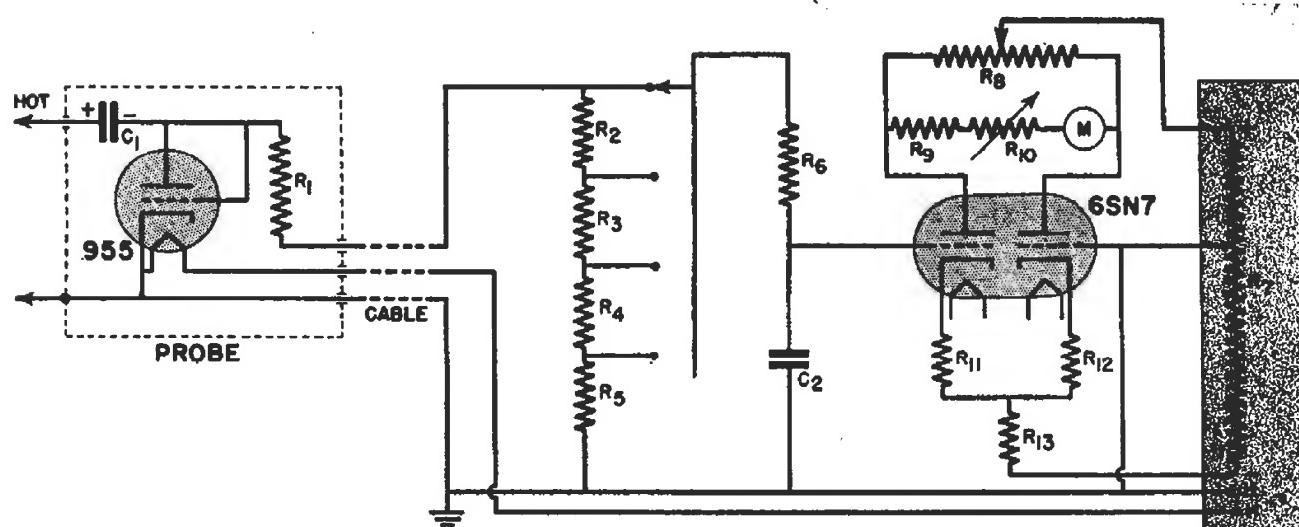

FIG. 5. An r.f. vacuum tube voltmeter capable of covering a wide frequency band without appreciable loading of the voltage source.
R.F. Vacuum Tube Voltmeter. When r.f. signal voltages are to be measured in order to determine accurately the amount of gain or loss in a stage or section, an r.f. vacuum tube voltmeter like the one shown in Fig. 5 is used. Undesirable test lead capacity is eliminated by placing the rectifier tube right in the probe used to pick up the r.f. voltage. The rectifier converts the r.f. into d.c. voltage, which can then be fed through a cable to a d.c. vacuum tube voltmeter.
In Fig. 5, the 955 triode tube is connected as a diode in a shunt-fed
to the input signal flows through the voltage divider resistors. This produces a d.c. voltage drop, so a d.c. vacuum tube voltmeter may now be used to indicate the signal level. The d.c. voltmeter circuit shown in Fig. 5 is of the balanced bridge type, having cathode degeneration to provide a linear scale. The combination R_6-C_2 is an r.f. filter used to keep the r.f. off of the grid of the 6SN7 tube.